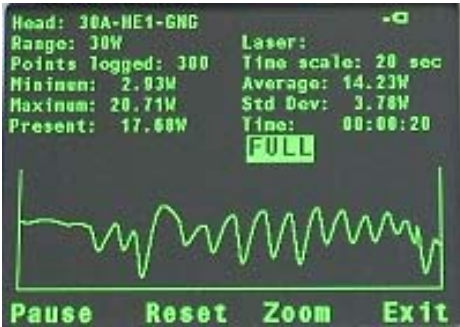

Figure 4.4
3. Now press "Log".and you will be in the power graph screen (See Figure 4.4). Press "Go" and the measurement will begin immediately. The "Go" button will now change to "Pause". If you wish to pause the measurements without losing data gathered, press "Pause" . Press "Pause" again to resume measurements. When the data register is full, "FULL" will flash on the screen. If "Zoom" is pressed at any time, the screen display will expand fivefold around the present power value. Press "Zoom" again to cancel the expansion. If you want to start a new measurement and not save the present data, press "Reset". If you want to save the data before making a new graph, see the next section.